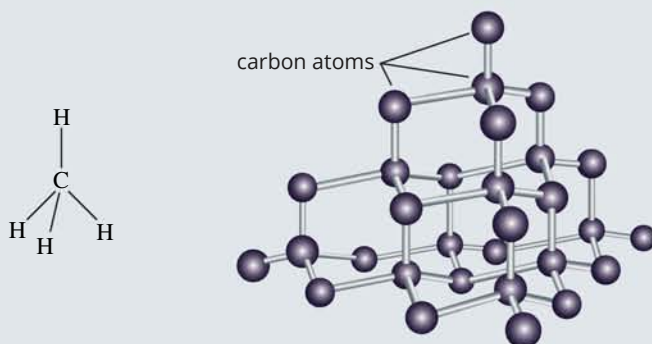

FIGURE 8.3.1 Structures of methane and diamond.
- 5 The structures of methane and diamond are shown in Figure 8.3.1. Each carbon atom in methane (CH_4) has a tetrahedral arrangement of atoms around it. A carbon atom in diamond also has a tetrahedral arrangement. However, the two substances have very different properties.